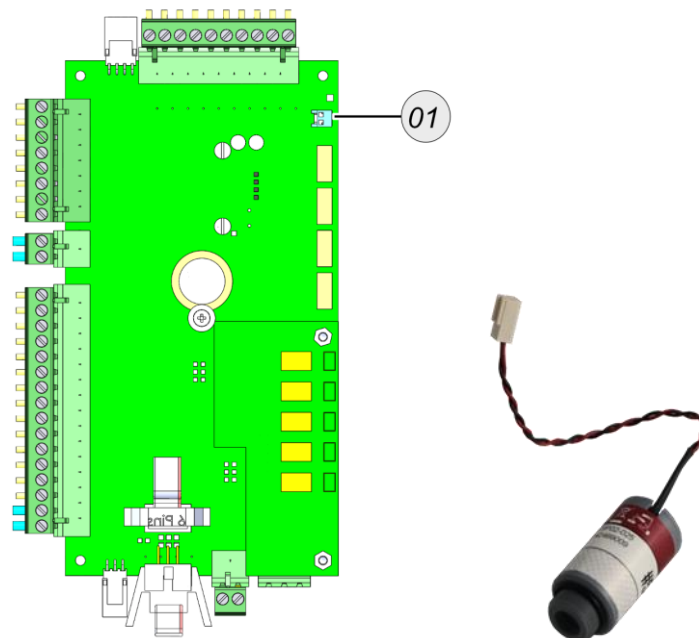

Fig. 1
- ☐ Unplug the O2 sensor to be replaced from the circuit board (Fig.1 (1)).